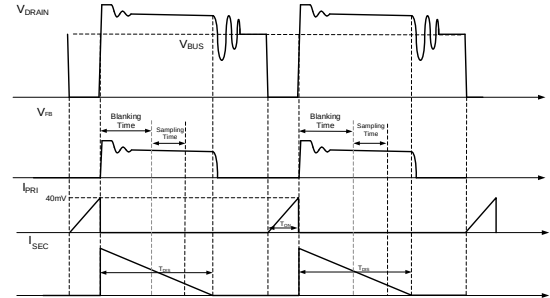
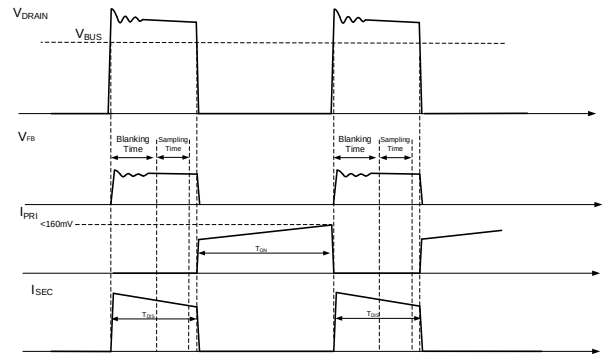

Fig.8 FB Sampling in DCM
Fig.9 FB Sampling in CCM
In order to achieve the primary side constant voltage control, the output voltage is detected by measuring the auxiliary winding voltage using the FB pin during the secondary side output diode conduction period. As shown in Fig.8 and Fig.9, When the secondary-side diode is conducting, the FB voltage can be calculated using equation (1).
Fig.8 shows the FB sample control in discontinuous conduction mode (DCM), Fig.9 shows the FB sample control in continuous conduction mode (CCM).
The SQ33607 regulates the primary side MOSFET switching to ensure a peak current always $\geq V_{CS_MIN}/R_{CS}$ in PSR mode, and will start sampling the auxiliary-winding voltage after the power MOSFET is turned off. A blanking time is added to avoid measurement during the ringing caused by the leakage inductance. To guarantee long enough FB sample period, the output diode current conduction time (T_{DIS} in Fig8 and Fig.9) should always be longer than 600ns in PSR 400kHz mode, and be longer than 800ns in PSR 250kHz mode.